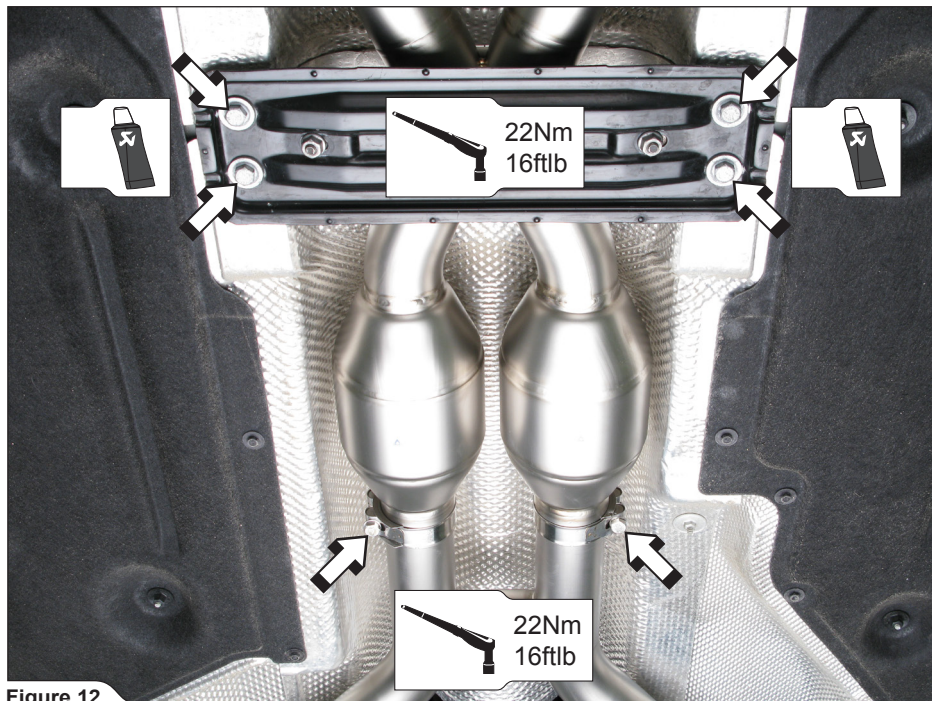

Figure 12
4. **For Evolution:** slide the middle pipes onto the headers, tighten the stock bracket and clamps to a specified torque (**Figure 12**).